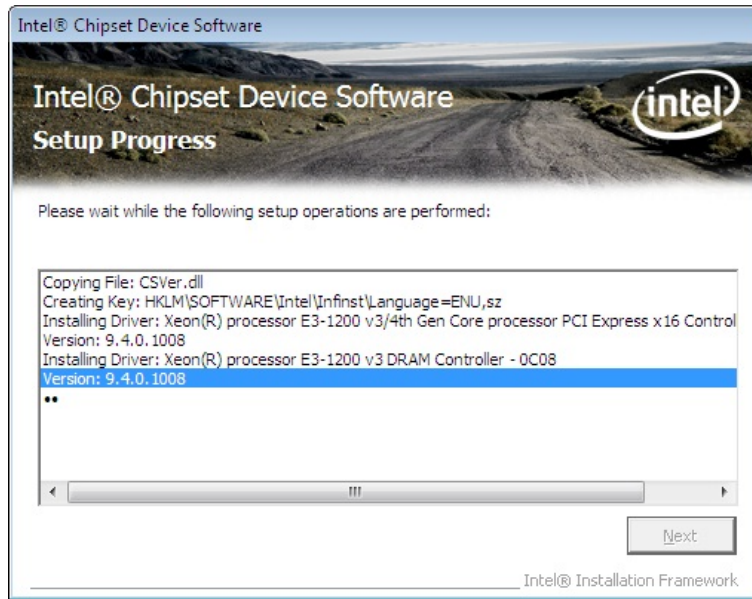

Figure 6-6: Chipset Driver Setup Operations
Step 11: Setup Operations are performed as shown in Figure 6-6.